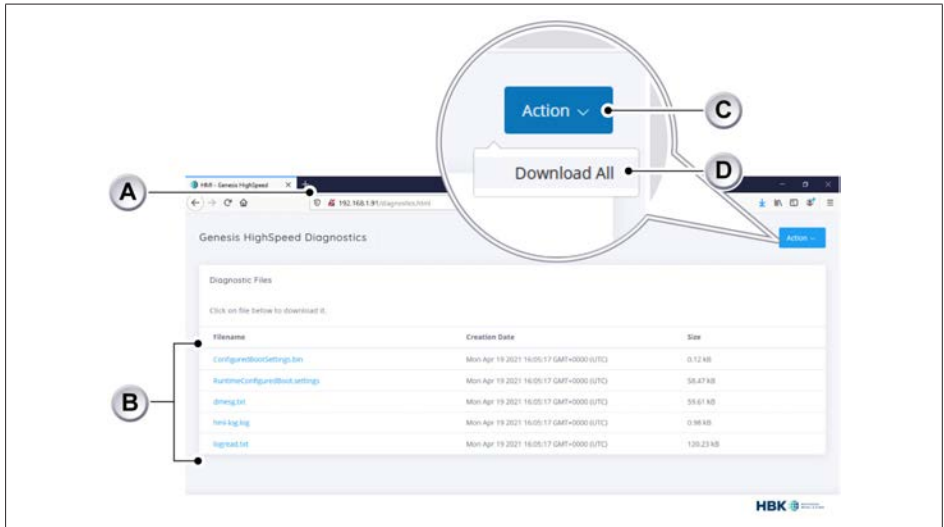

Fig. D.44 Diagnostics web page
2. Enter the address of the equipment (IP address or network name) in the browser address bar (A). The following web page will be shown (see Fig. D.44).
3. The diagnostic files (B) of the equipment will be listed on the web page (see Fig. D.44). It is now possible to click on each file individually to download, or click the **Action** button (C) to download all diagnostic files at once (D).